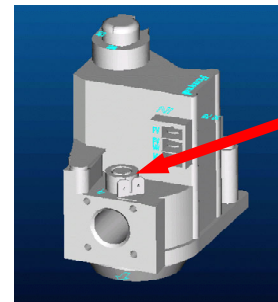

Figure 1B
2. Remove the pressure tap plug from the gas valve assembly (see Figure 1B).